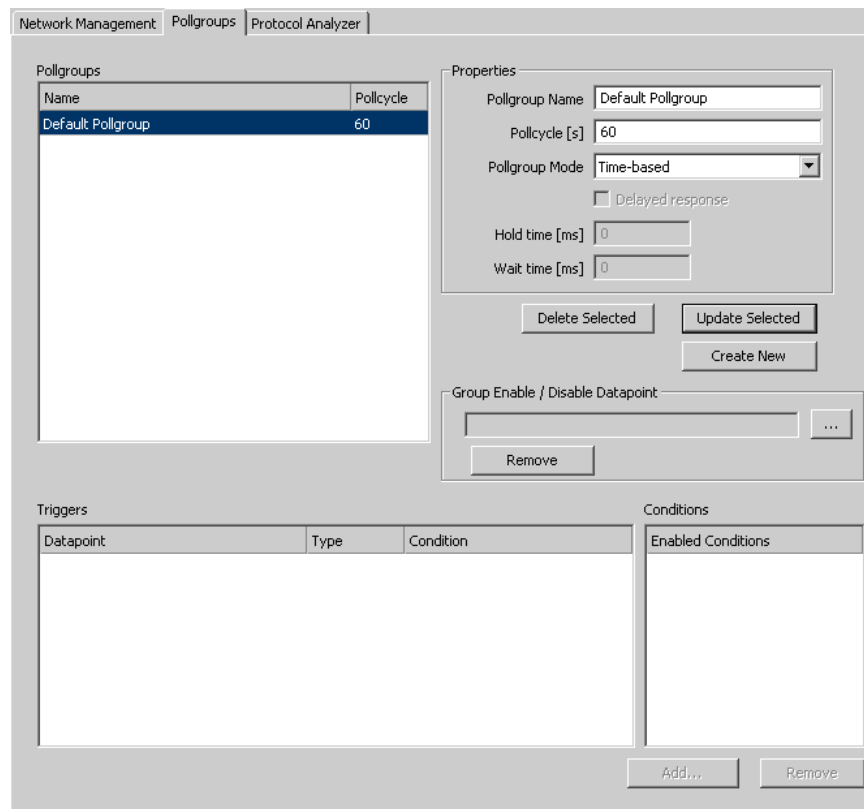

Figure 142: Pollgroup Management dialog.
2. Open the **Pollgroups** tab. This shows the dialog displayed in Figure 142.
2. In the **M-Bus Management** dialog, open the **Pollgroups** tab. This displays the poll groups management tab displayed in Figure 142.